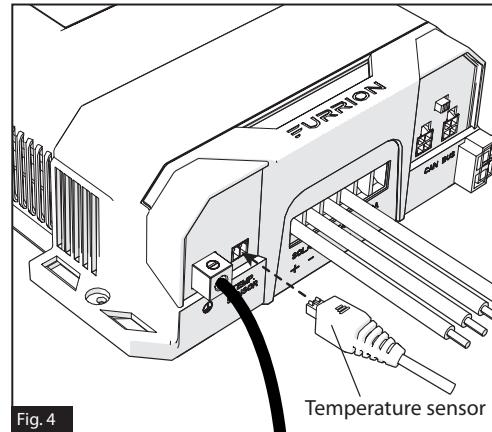

Fig. 4
- Plug the temperature sensor connector to the temperature sensor port (if applicable). (Figure 4)